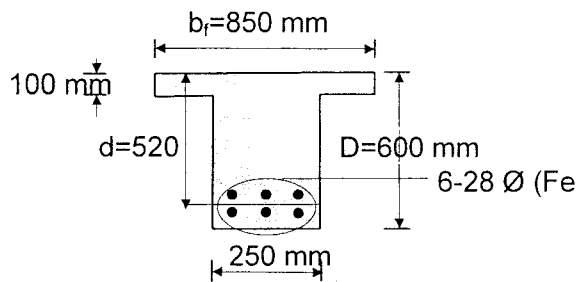

Fig. 1
1. Determine the ultimate moment of resistance for the T-beam section of effective width of 850 mm shown below (Fig. 1). Assume M20 grade concrete and Fe 250 grade steel. (40)